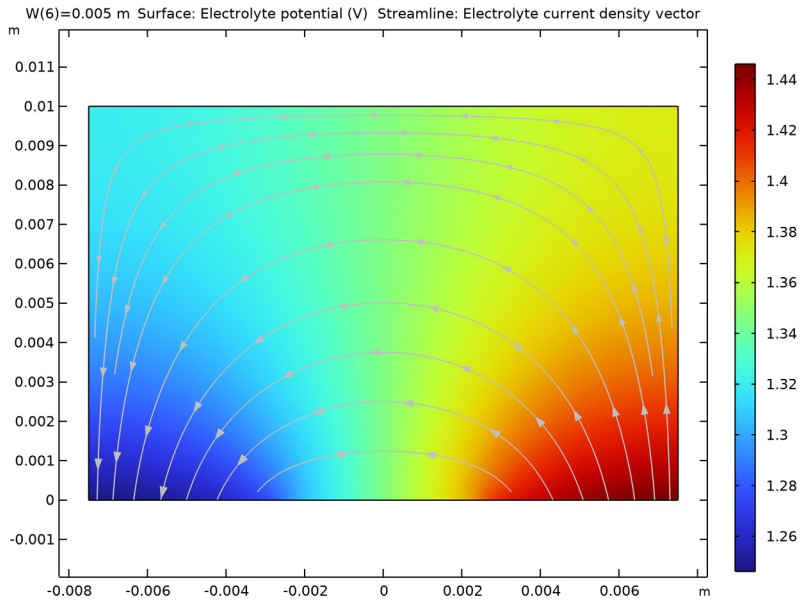

Figure 6: A surface plot of the electrolyte potential and surface arrow plot of electrolyte current density vector for 5 mm thick Al isolator.
Figure 6 shows a surface plot of the electrolyte potential and a surface arrow plot of the electrolyte current density vector for a magnesium (Mg) - mild steel (MS) galvanic couple with 5 mm thick Al isolator sandwiched between them. The surface arrow plot indicates that the ionic path taken by Mg^{2+} ions which get dissolved in the electrolyte solution from the Mg electrode surface is longer in case of 5 mm thick Al isolator. The increased distance and hence, IR drop, decreases the galvanic current density at the Mg electrode surface, mitigating galvanic corrosion.